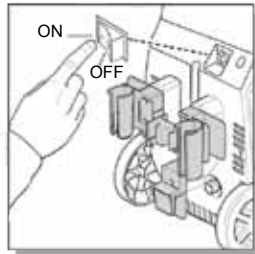

Fig. 16
- Make sure the “ON/OFF” switch is in the “OFF” position. The power switch has international symbols for ‘on’ and ‘off’: On (–) Off (O). (Fig. 16)